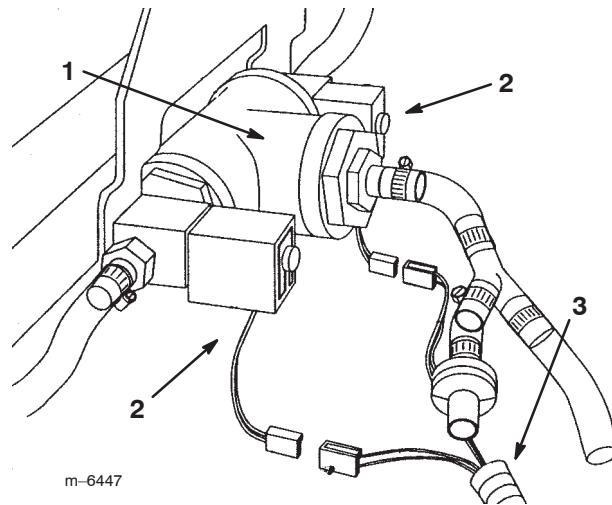

Figure 22
2. At the rear of the machine, plug the harness connectors into the boom solenoid assemblies. Plug the connector with the blue wire to the right solenoid; plug the connector with the yellow wire to the left solenoid (Fig. 22).